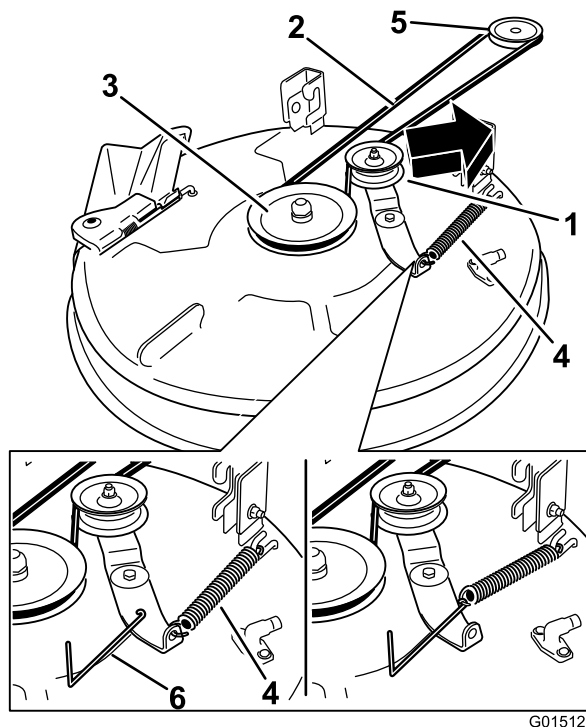

Figure 58
remove tension on the idler pulley and roll the belt off of the pulleys (Figure 58).
5. Route the new belt around the engine pulley and mower pulleys (Figure 58).
6. Using a spring removal tool, (Toro part no. 92-5771), install the idler spring over the deck hook and placing tension on the idler pulley and mower belt (Figure 58).